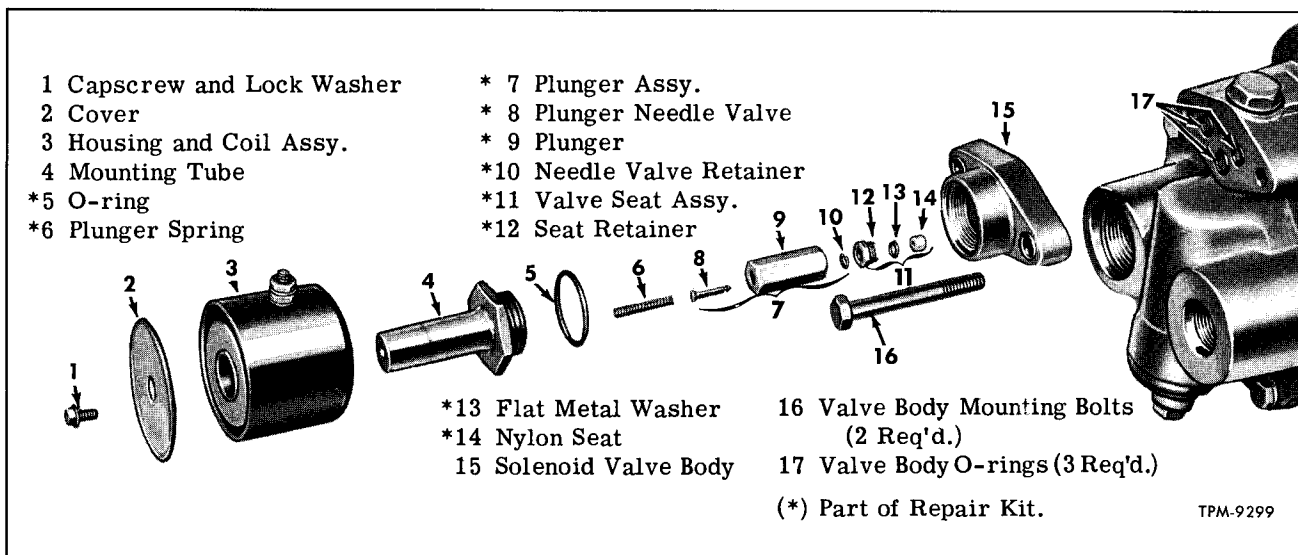

Figure 35—Pump Solenoid Valve Components
NOTE: Key numbers in text refer to figure 35.
3. Referring to figure 35, remove cap screw (1) and cover (2) from solenoid housing (3). Slide housing from mounting tube (4).
4. Remove mounting tube from valve body (15), then remove spring (6) and plunger assembly (7) from tube. Also remove the O-ring (5) from threads of tube. NOTE: The plunger assembly can be disassembled after removing needle valve retainer.
5. Using wrench, remove valve seat assembly (11) from valve body.
6. If necessary to remove valve body, remove two attaching bolts, then separate body from pump. Remove three O-rings (17) from recesses in pump flange.
All items identified by an asterisk (*) in figure 35 are part of valve seat plunger kit.